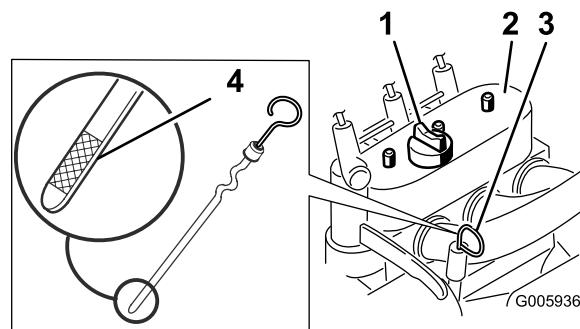

Figure 29
4. Clean the area around the oil dipstick (Figure 29).
5. Pull out the dipstick and wipe the metal end clean (Figure 29).
6. Slide the dipstick fully into the dipstick tube (Figure 29).
8. If the oil level is low, clean the area around the oil-fill cap and remove the cap (Figure 29).
13. Remove the fill cap (Figure 29) and slowly pour approximately 80% of the specified amount of oil in through the valve cover.